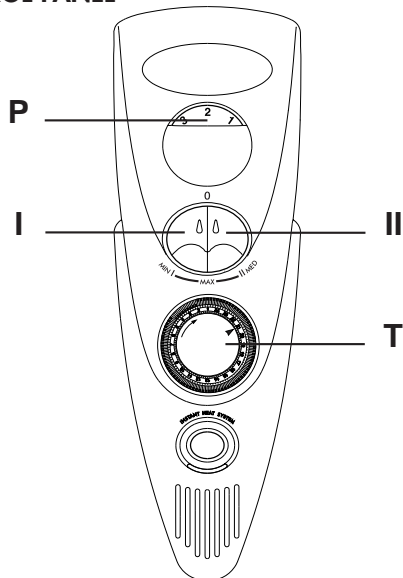

fig. 3
**Regulation of the thermostat (Fig. 3-P)**